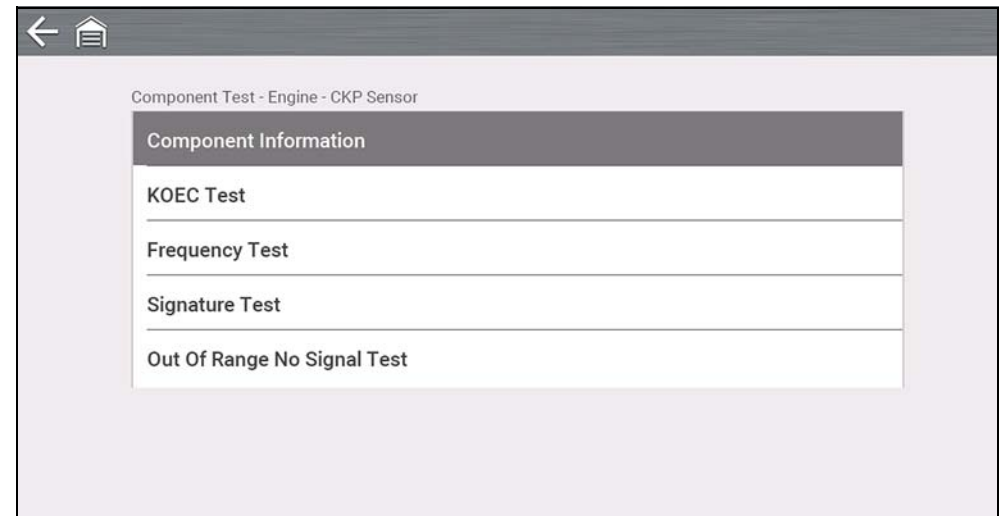

Figure 8-5
2. Select **Component Information** from the Component Test menu (Figure 8-5).